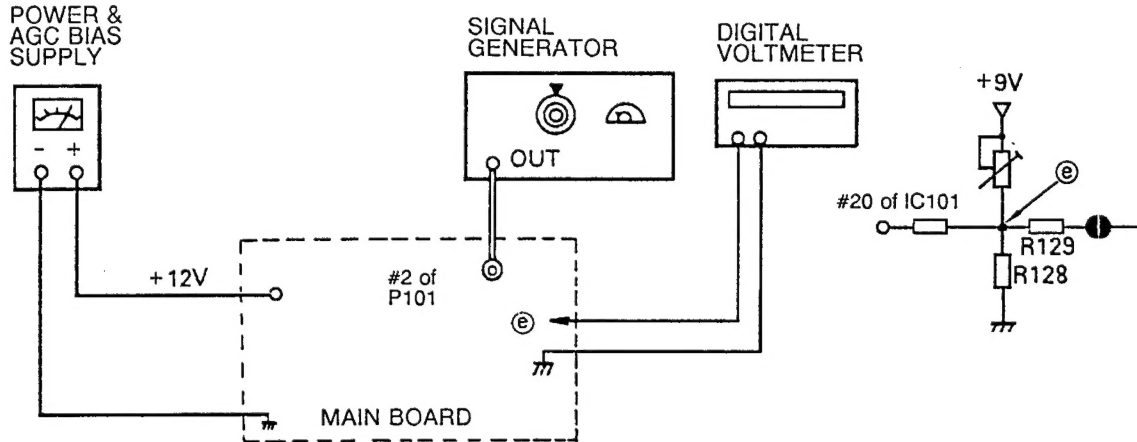

Figure 6. AFC Alignment
- GENERAL Refer to figure 6 for test equipment connection.
2. Supply +12 volts to the Main Board. (See figure 6.)
- DVM..... Connect to the resistor R125 (© in figure 6) and ground.